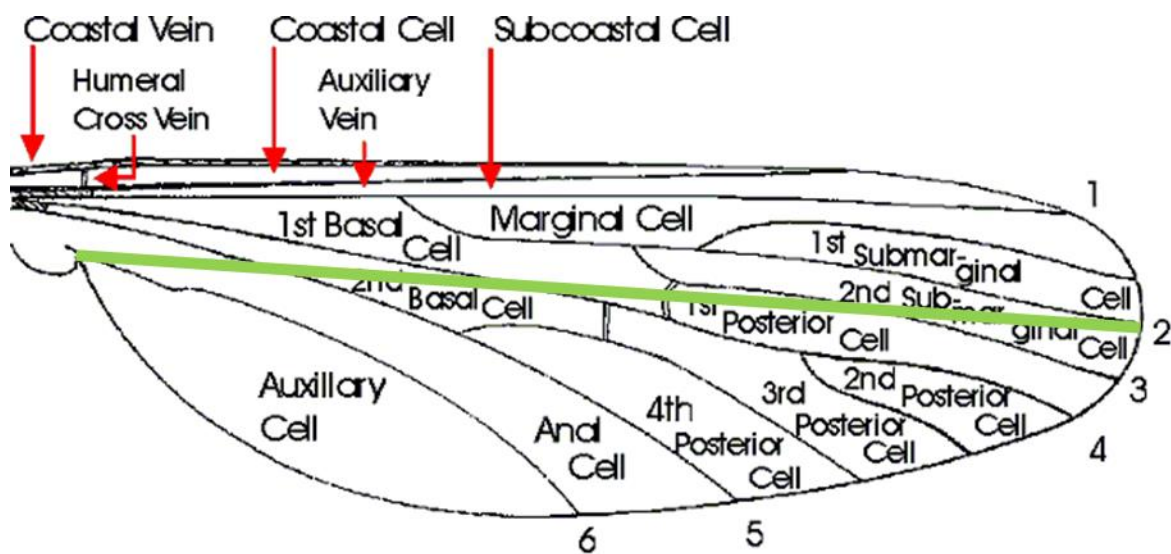

Figure 1. Wing measurement position.
- 3.6.3. Measure the length of the right-hand wing as shown in the image below (green measurement line, Figure 1). Measured data will be shown in the toolbar on the right side of the screen.
- 3.8.6. Select the straight line measurement and click and hold the left mouse button whilst measuring the wing as per Figure 1, then press Control + M to measure the distance.